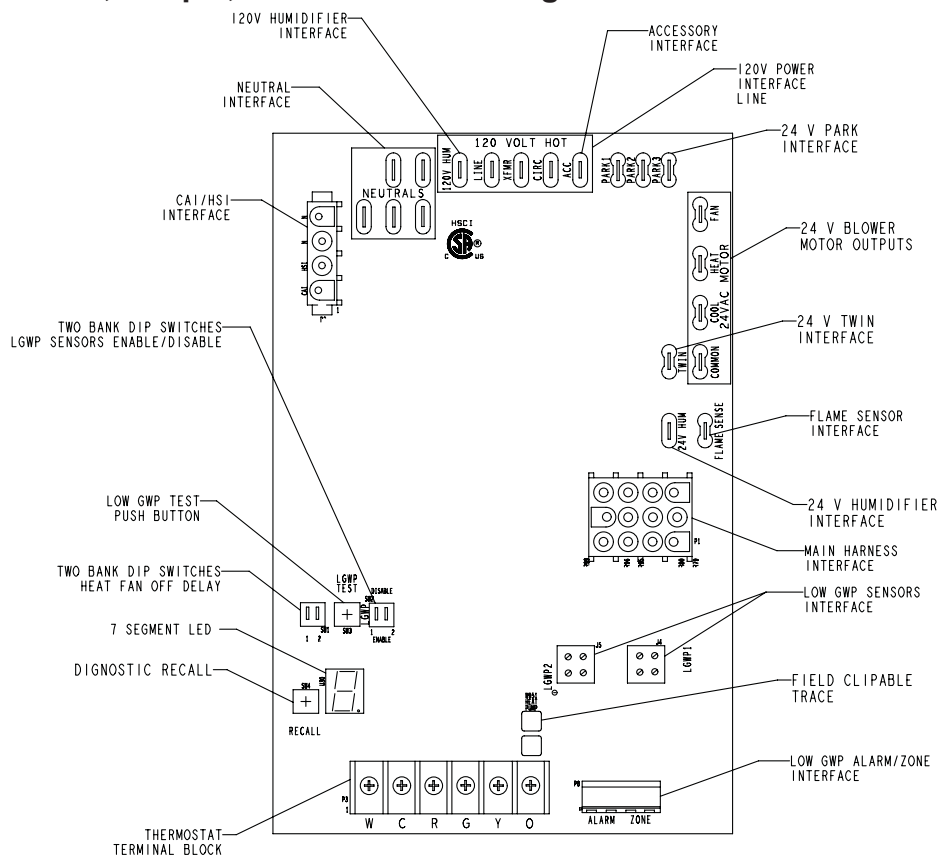

Figure 3.
4. Ignition Control 107792-XX (Figure 3)
One line voltage "HUM" 1/4" spade terminal is provided on the furnace integrated control. See **Figure 3** for integrated control configuration. This terminal is energized in the heating mode when the combustion air inducer is operating. Any humidifier rated up to one amp can be connected to this terminal with the neutral leg of the circuit being connected to one of the provided neutral terminals. If a humidifier rated at greater than one amp is connected to this terminal, it is necessary to use an external relay.
On Board Links (Figure 4 and Figure 5) and Diagnostic Push Button (Figure 3)
The hot surface ignition control system consisting of an integrated control (**Figure 3** with control terminal designations in **Table 1**, **Table 2**, **Table 3**) sensor and ignitor. The integrated control and ignitor work in combination to ensure furnace ignition and ignitor durability. The integrated control, controls all major furnace operations. The integrated control also features a RED LED for troubleshooting and two accessory terminals rated at (1) one amp. See **Table 4** for troubleshooting diagnostic codes. The nitride ignitor is made from a non-porous, high strength proprietary ceramic material that provides long life and trouble free maintenance.